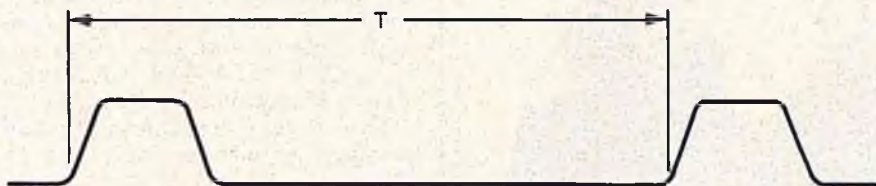

FIGURE 1
Probably the first thing to sort out is the fact that when we talk about a PCM system we're talking about the way the information we are sending to our model is encoded and not about how the RF carrier is modulated. A PCM system could use Amplitude Modulation (AM) but I suspect most will use Frequency Modulation (FM). The term encoding, in our case, refers to how we convert the transmitter stick position into an electrical signal that can be decoded in the receiver and converted to servo position. The systems we've been flying for the last twenty years use Pulse Position Modulation (PPM) where the information is contained in the time between adjacent pulses. See Figure 1.